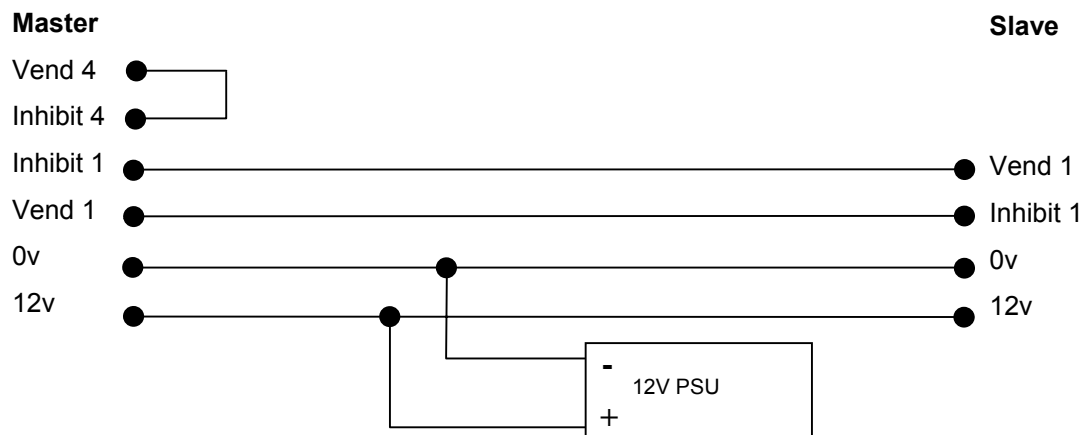

Figure 8 - NV8 Copy Cable Diagram
There NV8 Bank Note has a facility to copy its programme and settings to another NV8. The ‘Master’ validator will transmit the currency data and upgrade the slave’s firmware using the NV8 configured copy cable assembly (see figure 8).
- Using the NV8 cloning kit CK2 or connect the two units together as above (see figure 8).